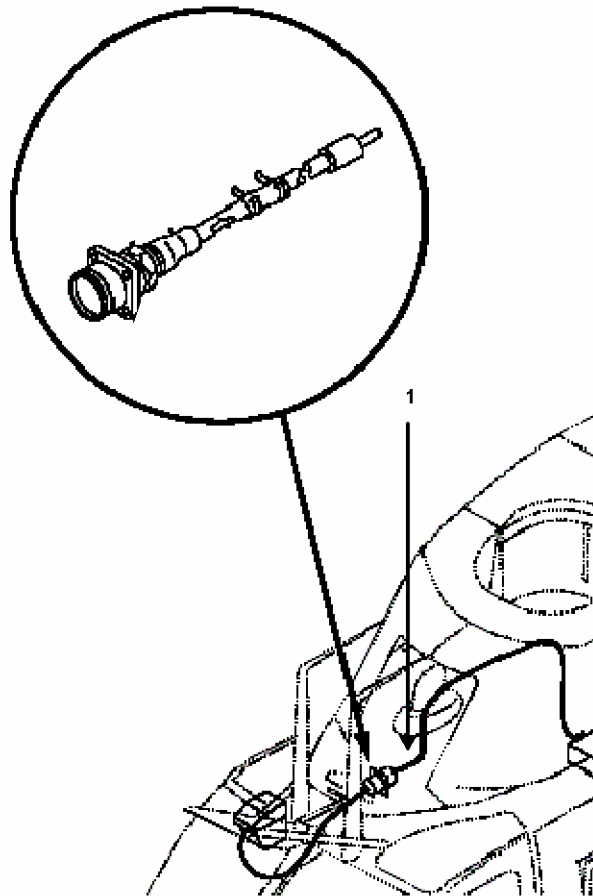

Figure 7
- (5) Prime area using MIL-PRF-23377 epoxy primer and paint.
- (6) Gain access to the right passenger side area.
- (7) Remove the Pilot PDU cable by removing 5 standoffs.
h. Removal of the PDU Cable. (See Figure 7.)
- (1) Gain access to the right side electronics bay and to the pilot area.
- (2) Remove the machine screws and standoffs securing the PDU cable.
- (3) Remove the PDU Cable.
- (4) Remove PDU Cable Bracket (1) held in by 4 rivets.
- (5) Cut off clamp studs on back door frame.